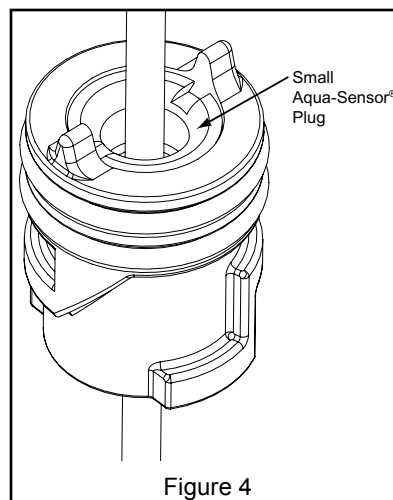

Figure 4
- A. Measure the sensor cable length as shown in Figure 4 and Table 1 (the Aqua-Sensor cord is set at the factory for a 9" tank).